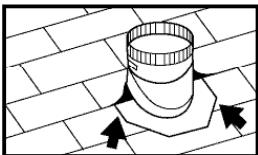

Figure 4 • Figura 4
**Mount Base...** Separate each layer of shingles around perimeter of hole. Coat the underside of the base flashing with ASTM D4586 roofing cement. Use light troweling, as heavy troweling may blister shingles. In its pitch-adjusted position, carefully slide the upper half of the flashing up roof beneath rolled back shingles until base is centered over 12" or 14" cut-out. Roll back any additional shingles where necessary and recheck pitch (using a level) for vertical alignment. **Figure 4** (For increased weather protection on new construction or re-roofing applications, use a 36"x36" piece of GAF Weather Watch® or GAF StormGuard® Leak Barrier. Center the leak barrier over the hole. Remove release film, press into place and cut away the leak barrier spanning the hole.)